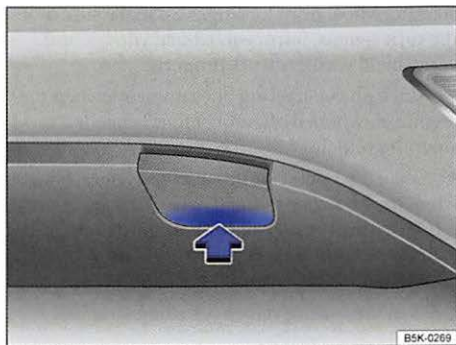

Fig. 204 In right rear bumper: Remove cover.
- Push on the cover at the bottom marking $\Rightarrow$ fig. 204 (arrow) so that it pops out.